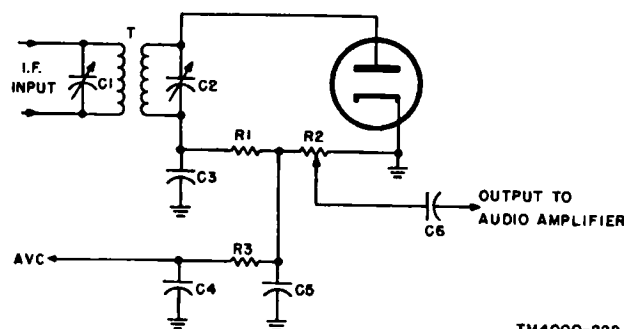

Figure 55. Diode detector.
b. Figure 55 shows an example of a diode detector. Because this type of detector is used almost exclusively in am circuits, other types will not be mentioned.